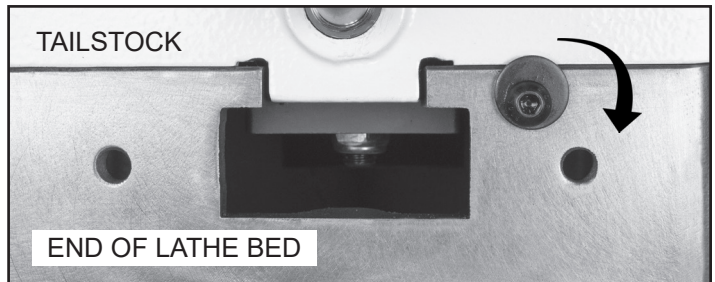

FIG. 5
2. Secure the Tailstock (E), and Tool Rest Base (D) assemblies to the Lathe Bed (F) by tightening their locking Lever Handles. See page 20 of this manual on how to make adjustments if needed.
- At the right end of the Bed, with a 5mm hex wrench loosen the Bolt (#11C) so that the offset Stop Washer (#10C) swivels down below the bed surface. Fig. 5.